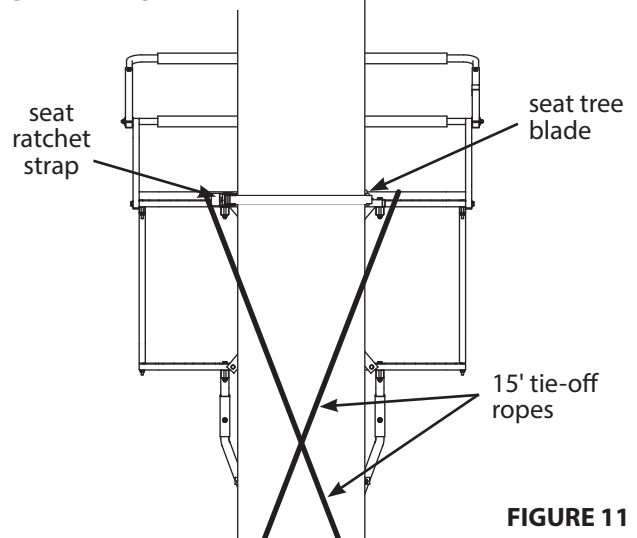

FIGURE 11
- a. Position (2) people at the platform end of the ladder, lift the platform end and continue uprighting by walking toward bottom end of ladder and moving hands along ladder legs. **Stand ladder up against chosen straight tree on dry, level ground.** Use caution when ladder comes over center against the tree.
- e. Wrap the previously attached 15' tie-off ropes hanging down from platform, around the back side of tree in opposite directions of each other. Pull the ropes snug and tie them to the ladder at the stabilizer bar height location. This ground level ladder-to-tree attachment will prevent the ladder from pulling away from the tree while ascending to top for final ratchet strap attachment. The same holds true when ladder removal is necessary. **SEE FIGURE 11.**